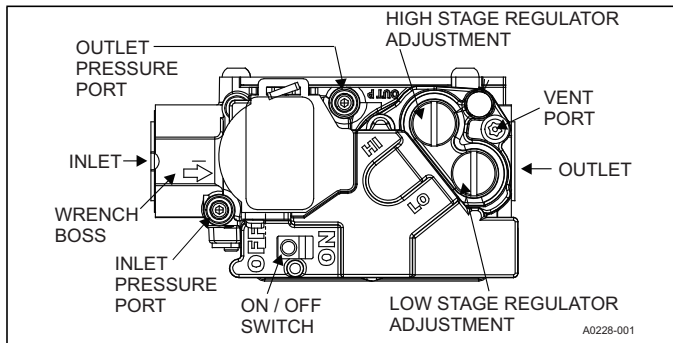

FIGURE 10: Gas Valve
Small adjustments to the gas flow may be made by turning the pressure regulator adjusting screw on the automatic gas valve. HI FIRE manifold pressure **MUST** be set before adjusting low fire. Refer to Figure 10.
1. Remove the cap from the valve body. See Figure 10 for location.